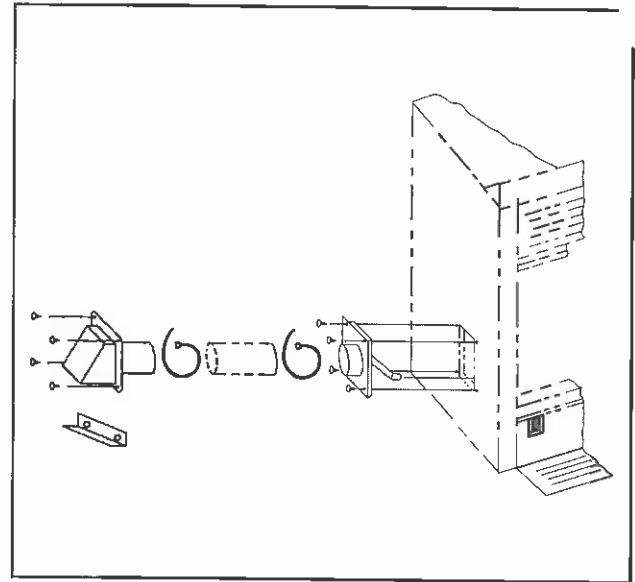

Figure 11 - Air Kit Installation
- a. The air kit can be installed only on the left side of the appliance. See Figures 11 and 12 for correct orientation of the door assembly and handle. The hinge will be toward the **back** of the appliance.